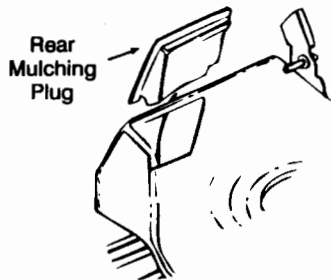

Figure 11
- Lift the rear discharge door on the mower, and remove the rear mulching plug. See figure 11.
1. Lift the rear discharge door and install the rear mulching plug. See figure 11.